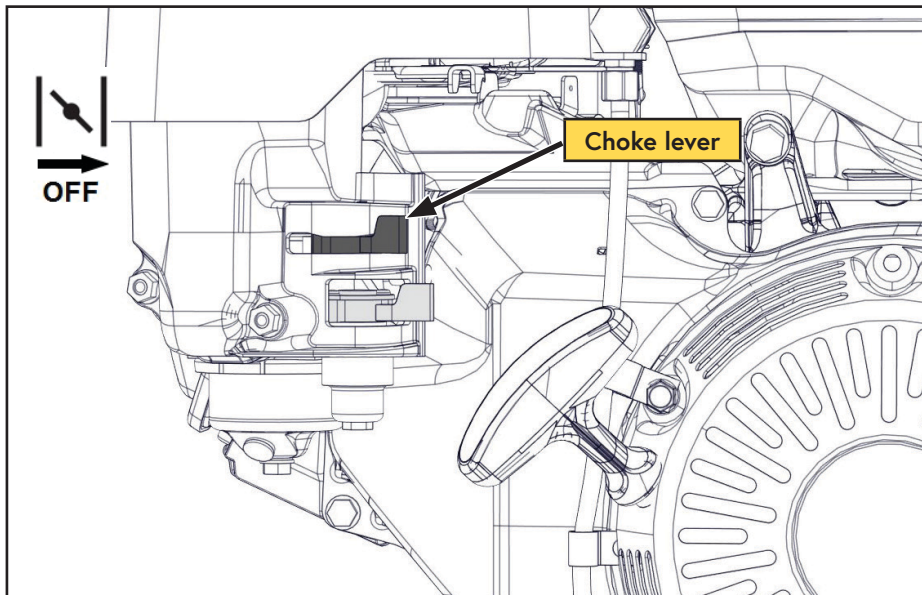

Figure 21 — Choke
- 7) Once the engine is running, gradually open the choke by moving the choke lever to the right as the engine warms up (Figure 21).
- 8) Once the engine has reached normal operating temperature, release the tension on the unloader valve (Figure 21).